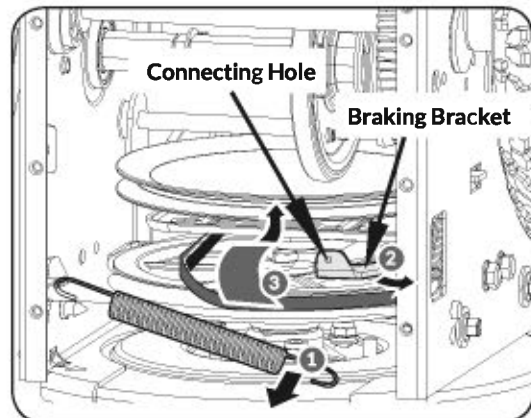

Figure 16d
6. Release the spring from the connecting hole in the braking bracket. Move the braking bracket away from the belt. Remove the belt from around the auger pulley, and slip the belt between the support bracket and the auger pulley. (See **Figure 16d**)